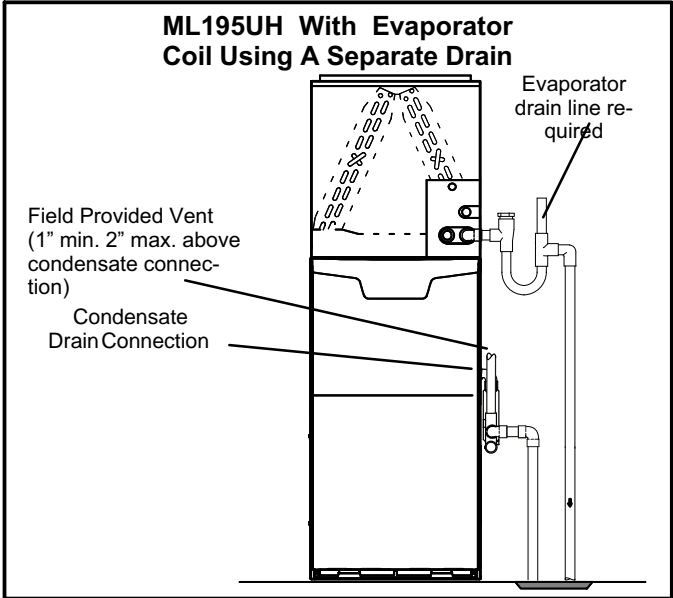

FIGURE 47
- 5 - Figures 47 and 49 show the furnace and evaporator coil using a separate drain. If necessary the condensate line from the furnace and evaporator coil can drain together. See figures 48, 50 and 51. Upflow furnace (figure 47) - In upflow furnace applications the field provided vent must be a minimum 1" to a